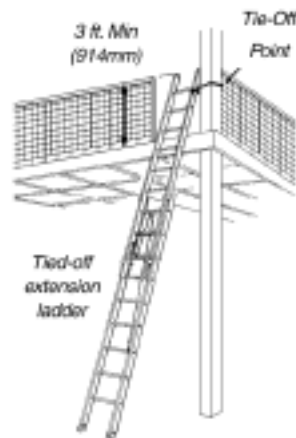

Figure 3
- Tie off ladders:** Ladders must not be erected on boxes, carts, tables, scaffold platforms, manlift platforms or vehicles (see figure 3).